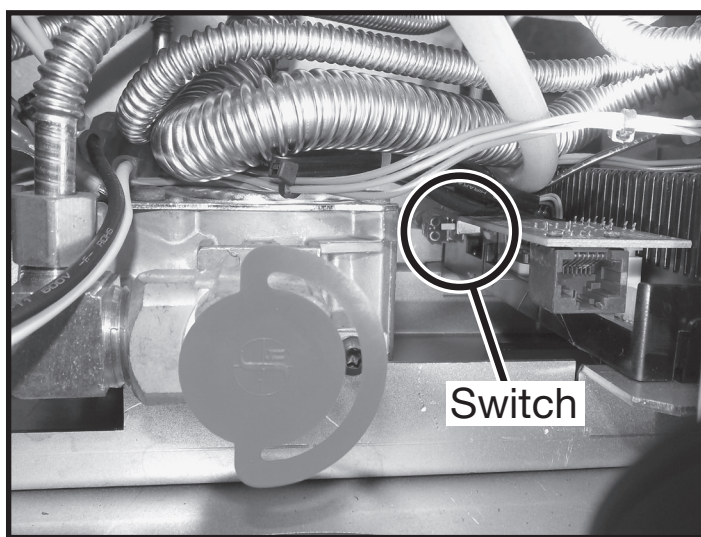
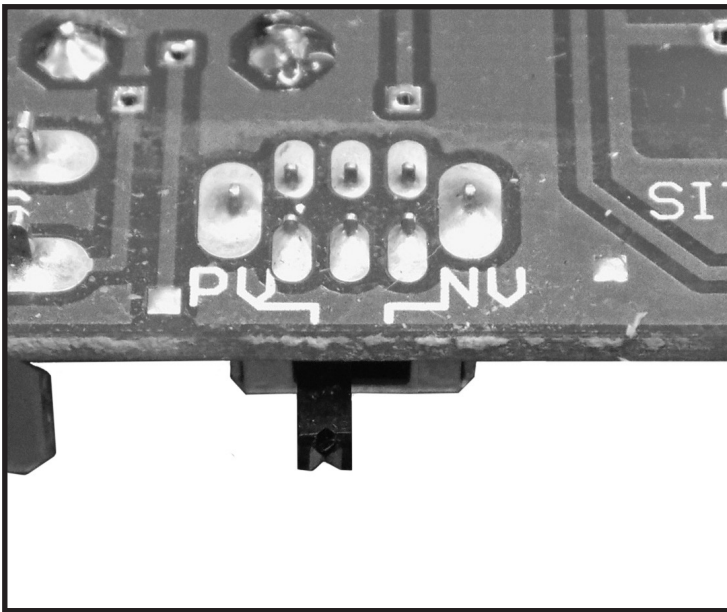

Figure 26: Vent selector switch.
Figure 27: Power vent switch.
3. Ensure that the switch on the IFC board is set to PV (Power Vent). Access to the switch can be made from the compartment opening (Figure 26). Reach in and make sure that the switch is pushed away from you. This will ensure that the switch is set for power venting (Figure 27). For more detail regarding the power vent selector switch, “Selecting Natural Vent and Power Vent Modes” on page 19.